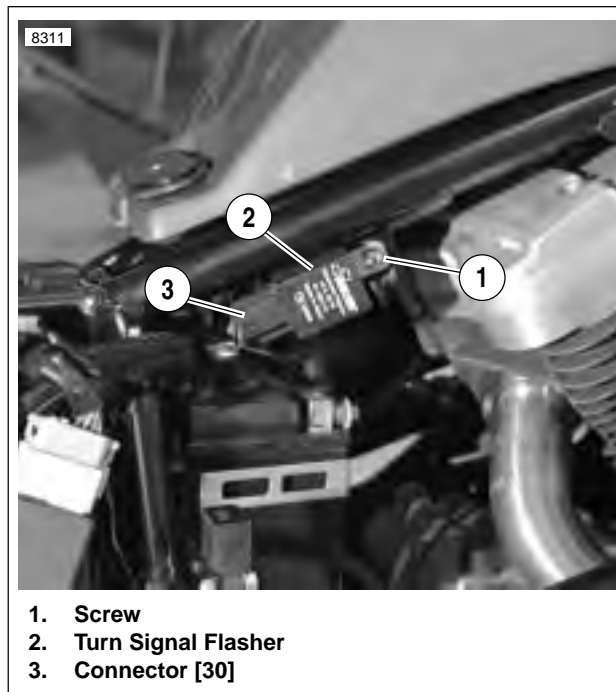

Figure 7-46. Turn Signal Flasher
2. See Figure 7-46. Locate turn signal flasher (2) on right side frame tube.
3. Remove screw (1) and flasher (2) from frame.
4. Remove connector [30] (3) from turn signal flasher (2).
1. See Figure 7-46. Install connector [30] (3) to turn signal flasher (2).
2. Install turn signal flasher (2) to frame with screw (1).